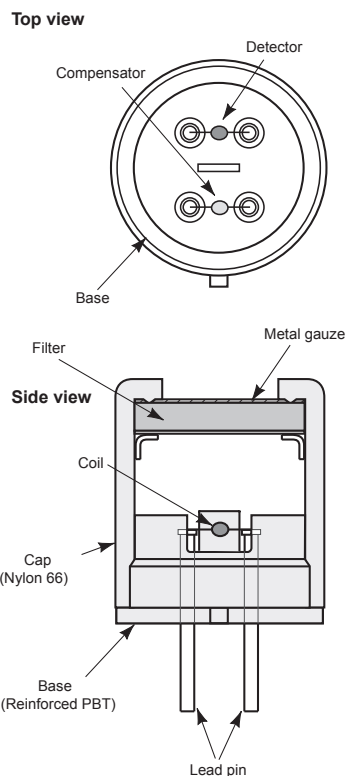

Fig. 1 - Sensor structure
Figure 1 shows the structure of TGS6810-D00. The sensor is comprised of two elements: element (D) which is sensitive to combustible gases, and a reference element (C) which does not have sensitivity to combustible gases. The sensing element (D) is made of alumina doped with catalysts, while the reference element (C) is made of alumina. Both coils are made of Pt wire, and the wires of both elements (D) and (C) are connected to nickel pins No. 2 & 3 and No. 1 & 4 respectively. The sensor base is made of reinforced Polybutylene Terephthalate (PBT) while the sensor cap is made of Nylon 66. The upper opening in the cap is covered with a double layer of 100 mesh stainless steel gauze (SUS316). The TGS6810-D00 utilizes a zeolite filter inside the cap for reducing the influence of interference gases.